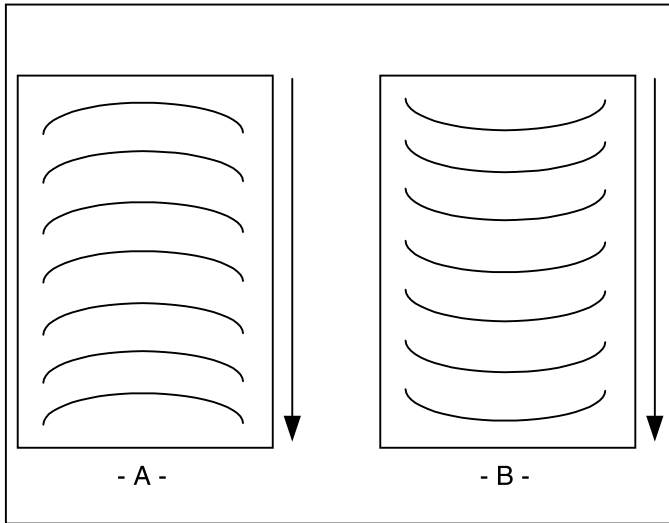

Fig. 47
1. “D” waves in the image (Figure 47 A).
2. “D” waves in the laminate (Figure 47 B).